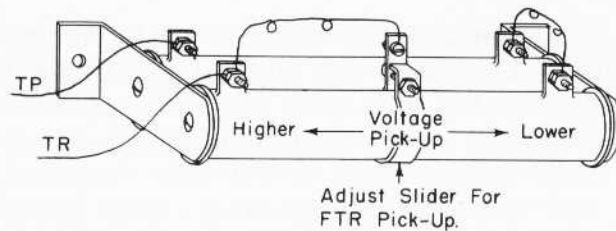

Fig. 4 - Transition Relay Adjustment
- c. Refer to Maintenance Data and compare reading in Step 1 with value shown, for specific locomotive. Should the FTR relay require adjustment, move the resistor slider band, Fig. 4, on the 10,000 ohm resistor. Increasing the resistance raises the pickup voltage and decreasing resistance lowers the pickup voltage.